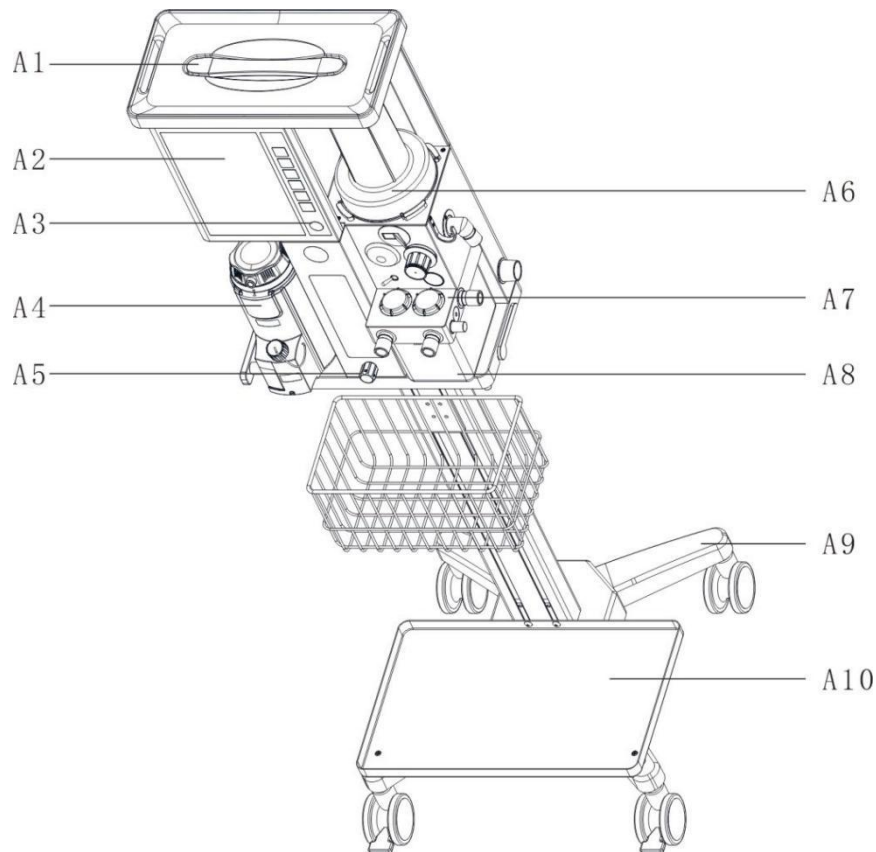

Fig 2-1 Front side view of the host
- (1) Place the anesthesia machine on the support plane of the trolley and align it with the mounting screw holes.
- (2) Screw the locking screw upwards from the lower part of the support surface of the trolley into the anesthesia machine and tighten the locking screw.
- (3) After installation, refer to Figure 2-1.
- (1) Align the installation hole of the evaporator with the connection head of the evaporator base, and then install the evaporator onto the bottom of the evaporator.
- (2) Turn the locking knob on the top of the evaporator clockwise at an angle of 90 degrees. Lock the evaporator.